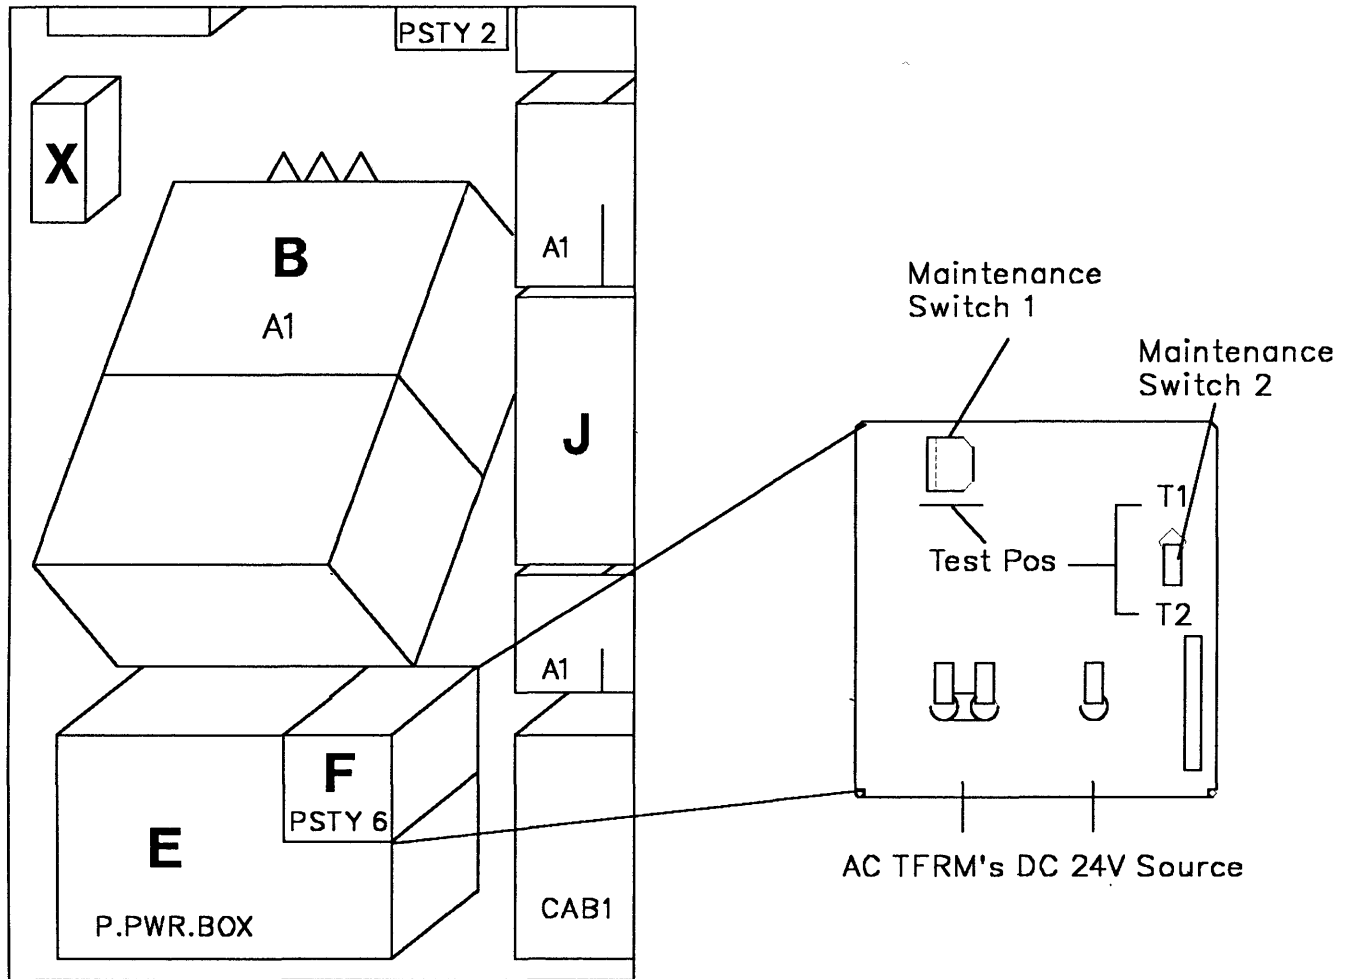

Figure 5-50. PS Type 6 SW1 Actuator
1. Press the 'Power Control' key until (3) is displayed in the Power Control window.
- a. Press the 'Service' key on the control panel until (1) is displayed in the service window.
- c. Press the 'Function' key on the control panel until the 'MOSS Power OFF' function (B) is displayed.
- e. Observe the MOSS Inoperative display on the control panel. At completion of power OFF, it will display the character (B).
- f. Locate the 'Maintenance SW1' on PS type 6. See Figure 5-50 on page 5-53. Lift the lever up and pull it outwards to the 'Test' position. Check that the LED is ON.